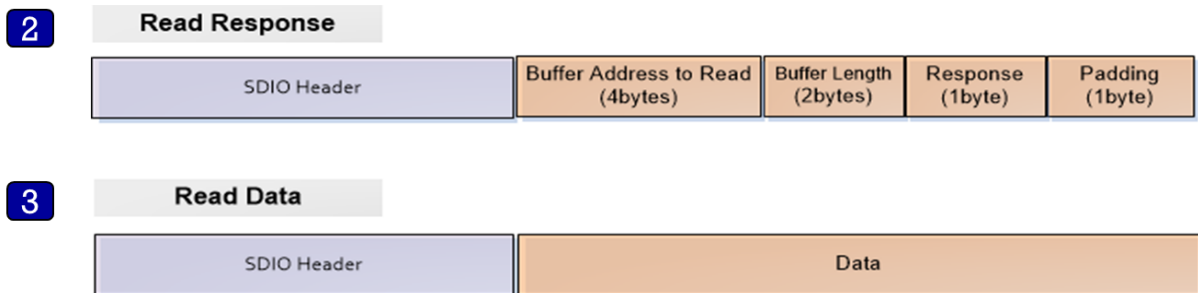

Figure 16. Structure
2. The Host reads the response message from Response Command address (0x50080258, blue rectangle in Figure 16), and parse it using struct `_st_host_response` (see Section 3.2.6).
3. The Host reads data from address (BUFF\_ADDR) which is received from Slave in the response message (green rectangle in Figure 16).